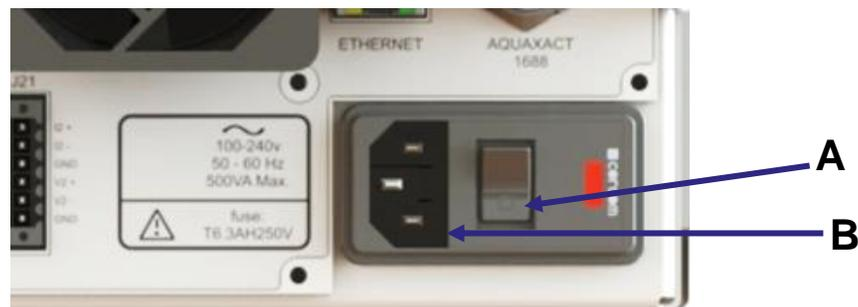

Figure 3-4: Power switch (A) and electrical supply socket (B) on rear of analyzer
1. Turn the Power Switch on the back of the unit to OFF: press the “O” on the On/Off switch shown in Figure 3-4 A.
2. Fit the IEC plug on the end of the electrical supply cable provided to the electrical supply socket on the rear of the analyzer (Figure 3-4 B).